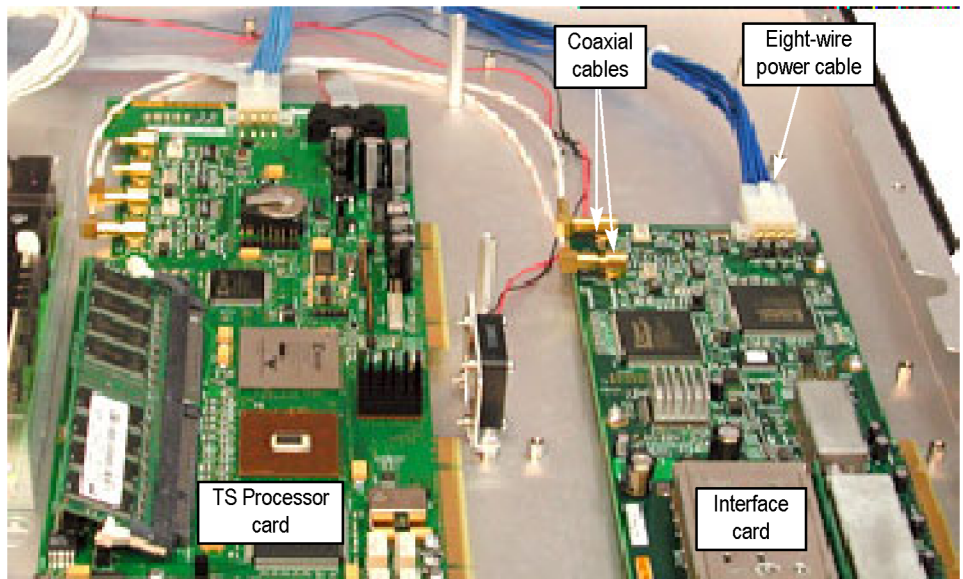

Figure 40: Cable connections for QAM (Annex A), QAM (Annex B1), QAM (Annex C), and QPSK (L-Band, old version) interface cards
- Connect one coaxial cable from the connector labeled O/P on the interface card to the connector labeled I/P A on the TS Processor card. This is a push-fit connector. (See Figure 40.)